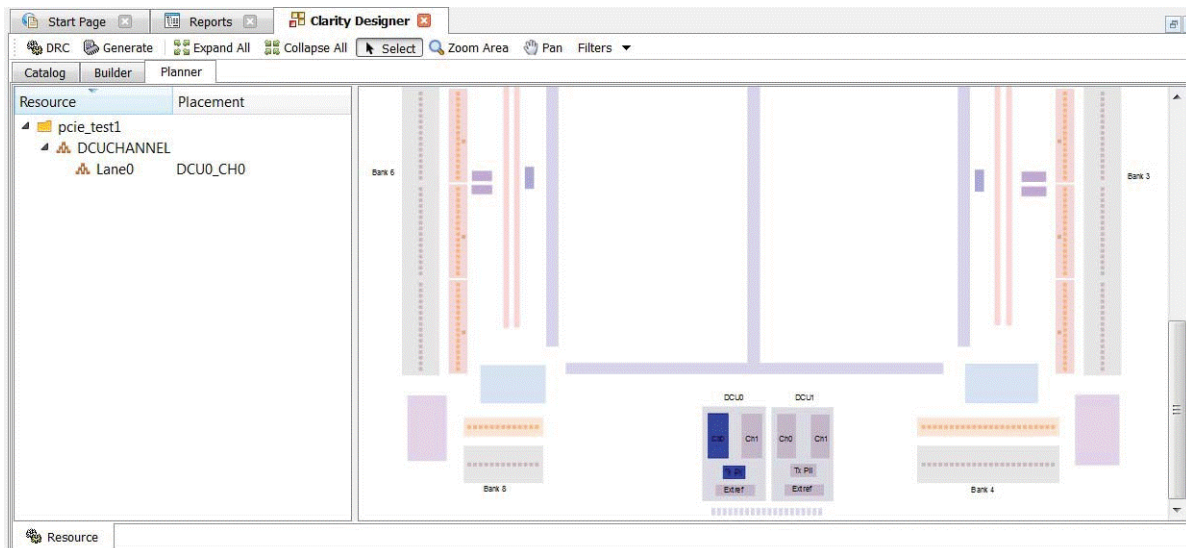

Figure 4.8. Clarity Designer Placed Module
- The IP core instance may now be placed in the desired location in the ECP5 DCU. Drag the instance of associated IP SERDES lanes entry from the Planner tab to the Clarity Designer Placement tab. Once placed, the specific IP core placement is shown in the Configured Modules tab and highlighted in the Placement tab as shown in Figure 4.8.